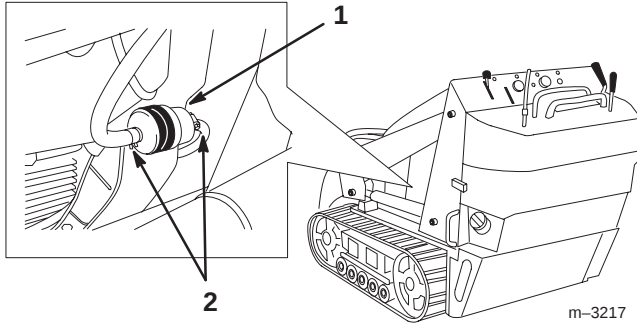

Figure 42
4. Clamp the fuel lines on both sides of the fuel filter (Fig. 42).
5. Squeeze the ends of the hose clamps together and slide them away from the filter (Fig. 42).